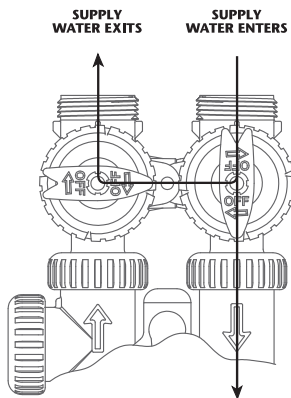

Figure 3
3. **DIAGNOSTIC POSITION:** The inlet handle points toward the control valve and the outlet handle points to the center of bypass valve. Untreated supply water is allowed to flow to the system and to the building, while not allowing water to exit from the system to the building (**Fig. 3, page 4**).